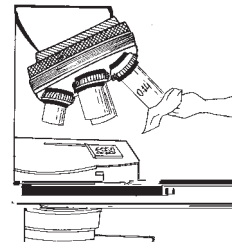

Fig. 9.10
- Gently wipe off immersion oil from the lens after each session of use with lens paper or muslin cloth. This is sufficient if good quality oil is used (use synthetic oil recommended by the manufacturer) (Fig. 9.10).